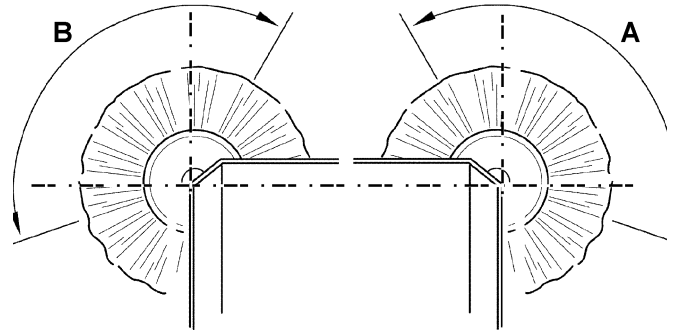

Figure 6
- Check that the side broom prints are as shown in the figure (A and B, Fig. 6).